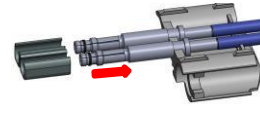

Figure 3
- d. Slide contacts into lower auxiliary support (Figure 3).